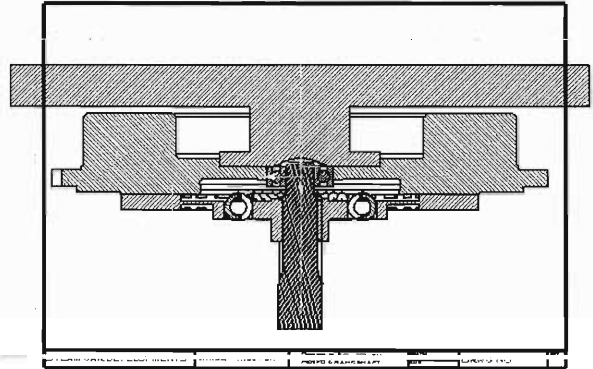

Figure 1. Perfo Flywheel on Perfo Crankshaft
- Perfo flywheel to a Perfo engine (figure 1)